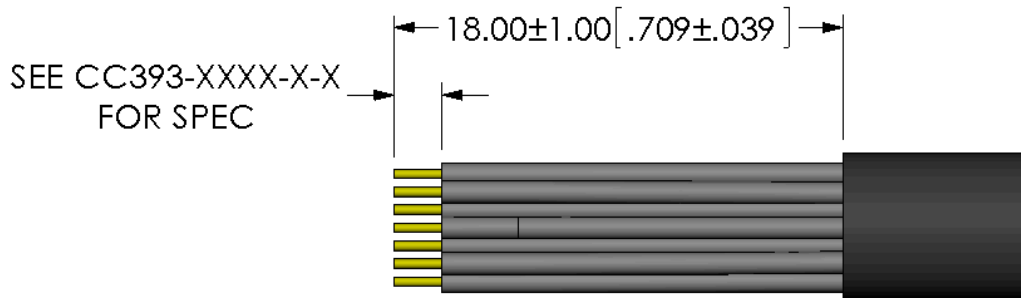

FIG 8
1. Strip the cable/wires according to FIG 8.